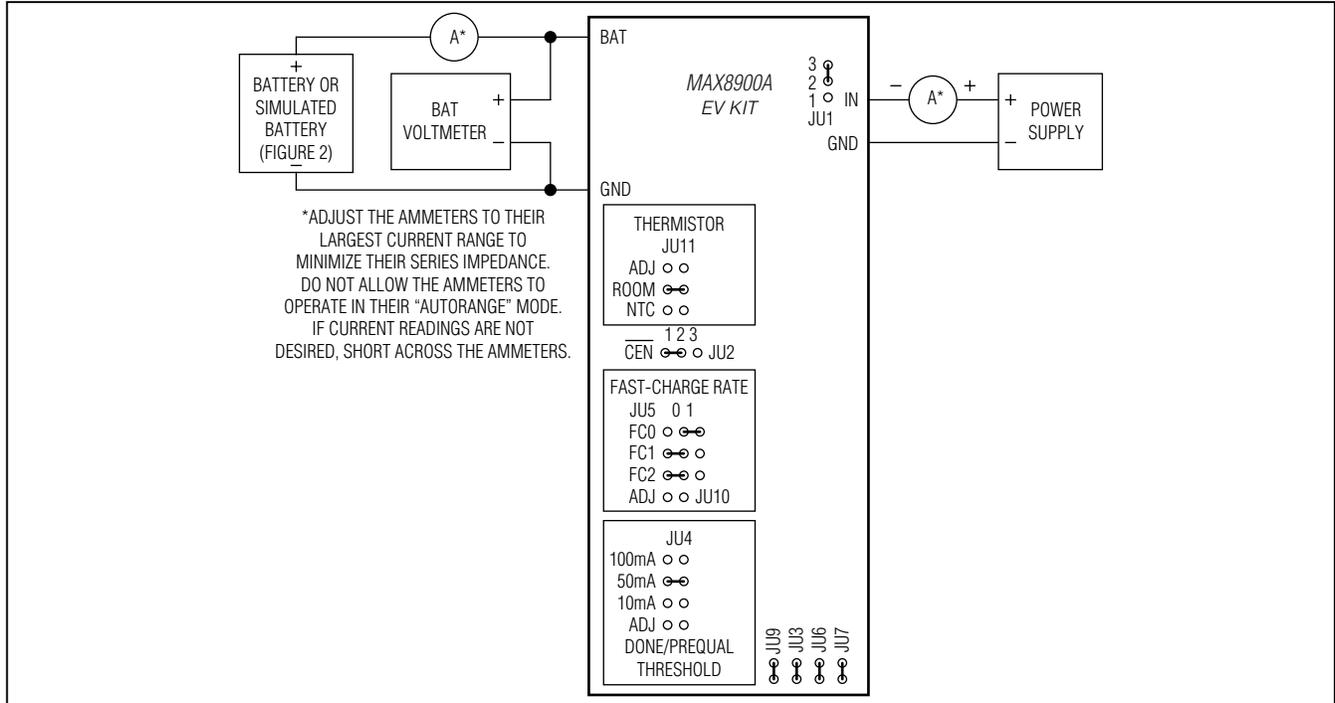

Figure 3. Connection Diagram and Default Jumper Connections
- 1) Ensure that the EV kit has the jumper settings as shown in Figure 3 and Table 1.
- 3) Connect the EV kit to the power supply, battery, or preloaded power supply and meters, as shown in Figure 3. Adjust the ammeters to their largest current range to minimize their series impedance. Do not allow the ammeters to operate in their “autorange” mode. If current readings are not desired, short across the ammeters.
As shown in Figure 3, MOSFET and resistor combinations adjust the total resistance from SET1 to ground. The MAX8900_ supports values of fast-charge current (IFC) from 50mA to 1200mA. Table 2 shows the IFC values that are easily obtainable by adjusting jumpers JU5 and JU10. The relationship between RSET1 and IFC is as follows:
As shown in Figure 3, several different resistor values can be connected from DNI to ground by using jumper JU4. The resistance from DNI to ground sets the prequalification current (IPQ) and done current (IDN). The MAX8900A supports IDN and IPQ currents from 10mA to 200mA. Table 3 shows the IDN and IPQ values that are easily attained with the EV kit. The relationship between RDNI, IDN, and IPQ is as follows: